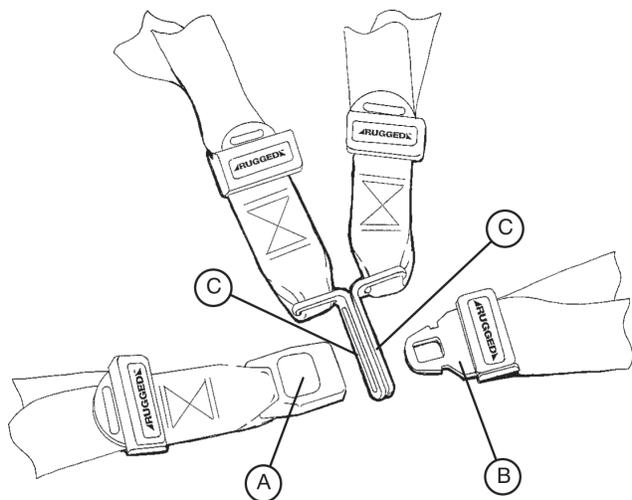

Figure 17 - Buckling the Safety Restraints
- To open the restraint, press the red button (A) on the front of the buckle “receiver”. This releases the buckle “tang” (B) which can then be pulled out of the receiver (Figure 17).
- To close the restraint, push the tang into the receiver until a “click” is heard. When fastening the chest restraint ensure the tang passes through both links (C) on the shoulder strap (Figure 17).